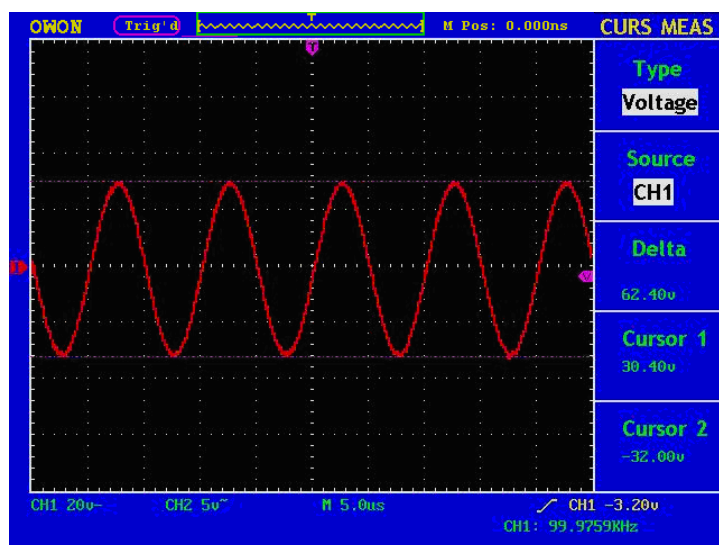

Fig.5-46 Waveform of Voltage Cursor Measurement
- Press **F2** to select **CH1** as the **Source**. The results are shown on the screen. (See **Fig.5-46**).